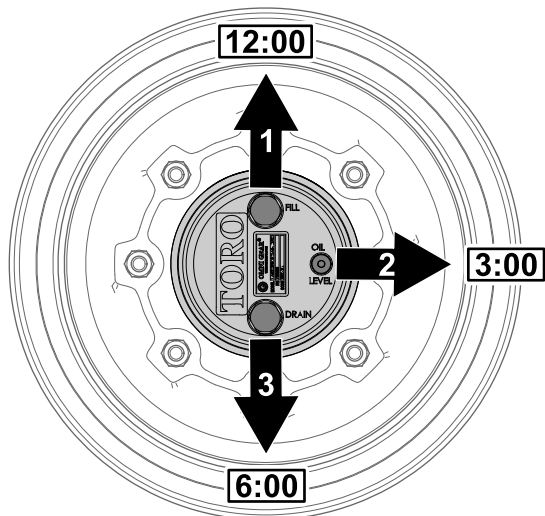

Figure 90
1. Park the machine on level surface, position the wheel so that the fill plug is at the 12 o'clock position, the check plug is at 3 o'clock position, and the drain plug is at the 6 o'clock position (Figure 90).
2. Remove the check plug at the 3 o'clock position (Figure 90).
1. Park the machine on level surface, position the wheel so that the fill plug is at the 12 o'clock position, the check plug is at 3 o'clock position, and the drain plug is at the 6 o'clock position; refer to Figure 90 in Checking the Planetary Gear-Drive Lubricant (page 56).